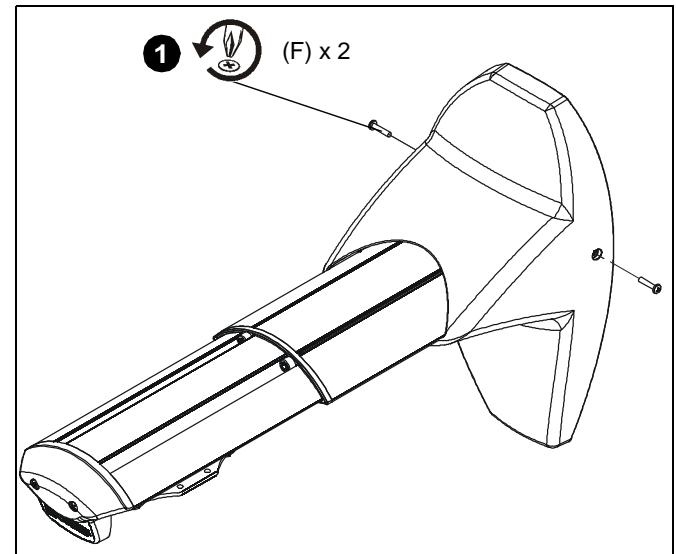

Figure 18
1. Remove two #8-32 x 3/4" Phillips pan machine screws (F) to free outer cover from mounting bracket. (See Figure 18)